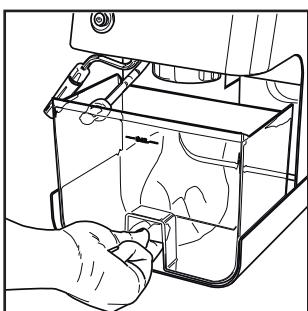

Fig.2
- (Fig.2) - Remove and empty the water tank.